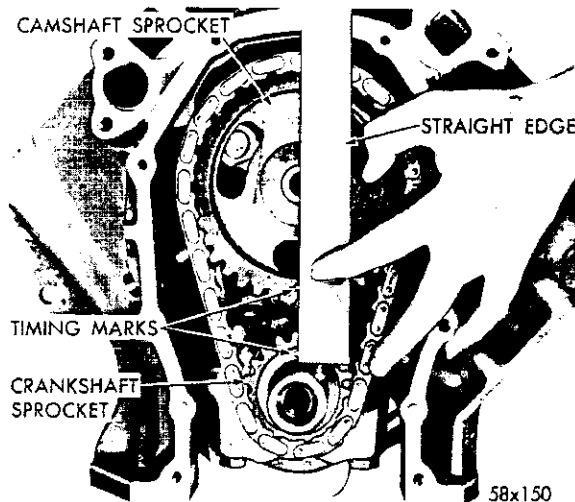

Fig. 26—Checking Alignment of Timing Marks Using a Straightedge
(1) Place both the camshaft sprocket and crankshaft sprocket on the bench with timing marks on exact imaginary center line through both camshaft and crankshaft bores.
(2) Place the timing chain around both sprockets.
(3) Turn the crankshaft and camshaft to line up with the keyway location on the crankshaft sprocket and the dowel holes in the camshaft sprocket.
(4) Lift the sprockets and chain (keep sprockets tight against the chain in position as described).
(5) Slide both sprockets evenly over their respective shafts.
(6) Use a straight edge to check alignment of the timing marks (Figure 26).
(7) Install the washer and camshaft sprocket bolt and tighten to 35 foot-pounds torque.